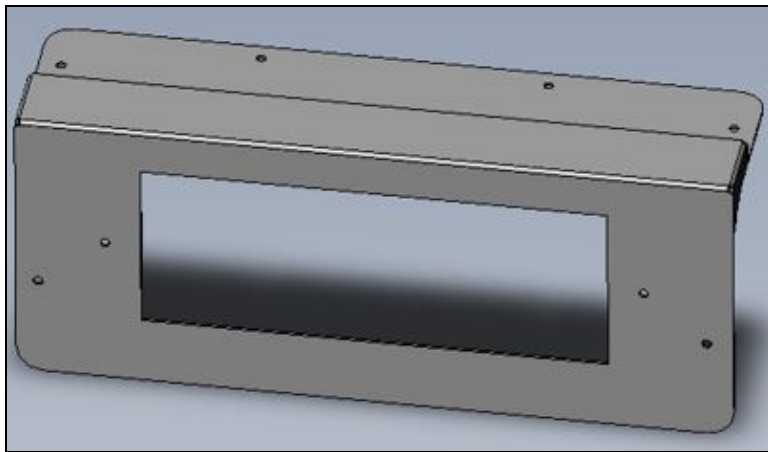

Figure 8- MTK0908
- Mounting Plate (#MTK0908) See Figure 8.